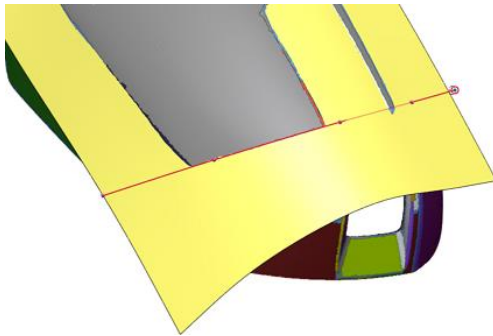

Figure 183 – Mesh Fit(1)
- Draw a Spline from edge to edge of the Mesh Fit(1) surface body, as shown in **Figure 183**.